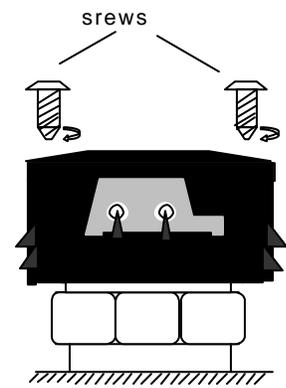

Fig. 3
6. Carefully tighten both screws (2 screws per AS-Interface connector) until the second mechanical locking engages (Fig. 3).